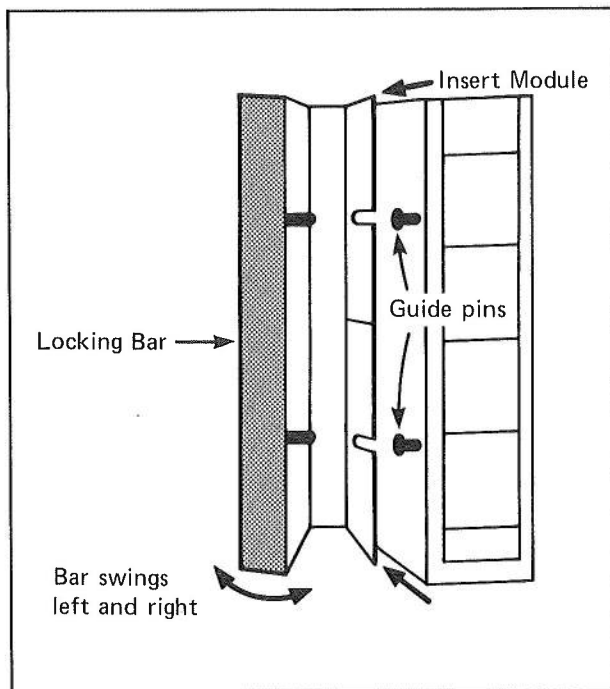

Figure 5 — Guide Slots
Step 3 — Move the Locking Bar on the I/O Rack's built-in terminal block to the left to uncover the guide slots on the block. (See Figure 5.)